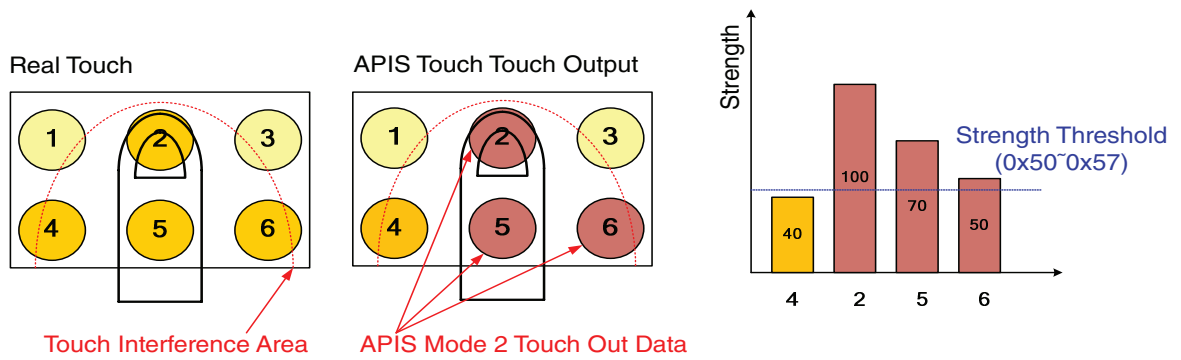

Figure 4: Operation of APIS Mode 2
**APIS mode 2:** Reports all outputs that exceeds pre-defined thresholds (value of Strength Threshold register) (Figure 4).